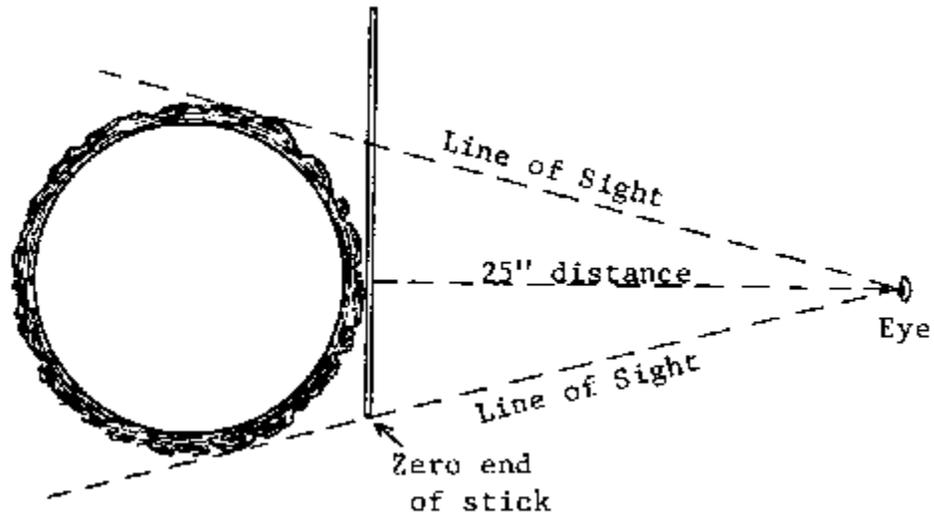

Figure 1. Diameter measurement.
- DBH is an outside measure (Figure 1). On sloping ground, measure from the upper side. Two measurements at right angles to each other will give a more accurate reading since many trees are not perfect cylinders.